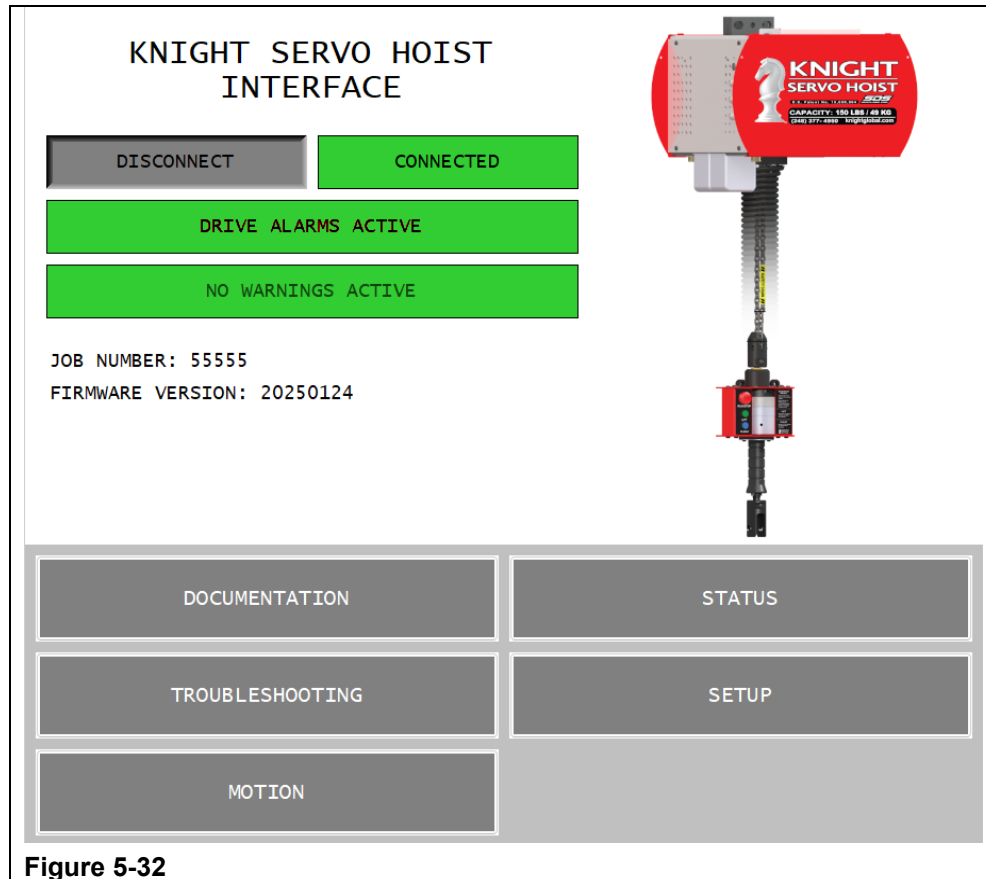

Figure 5-32
Step 26. If the unit doesn't work properly, follow the troubleshooting screens found in Knight Servo Studio under the Troubleshooting branch of Workspace directory tree. (See Figure 5-32)